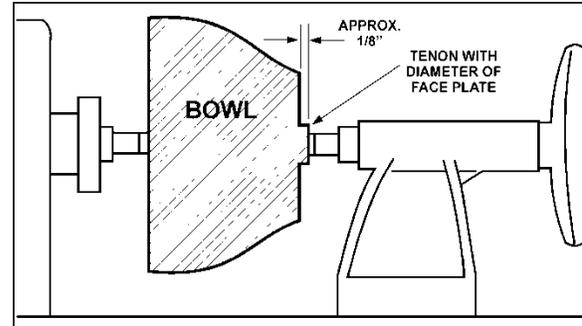

Figure 34
8. Turn a short tenon (about 1/8" long) the size of the hole in the faceplate. See Figure 34. This will allow centering the workpiece when the faceplate is attached.